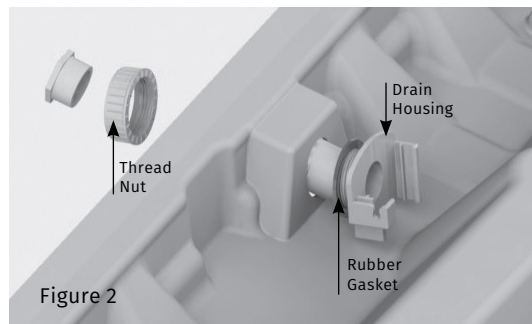

Figure 2
2. Install the drain housing from inside the pan. Make sure that the rubber gasket/s are inside of the pan. (Figure 2)
3. Screw the thread nut onto the drain adapter from outside of the pan. Hand tight only. (Figure 2)